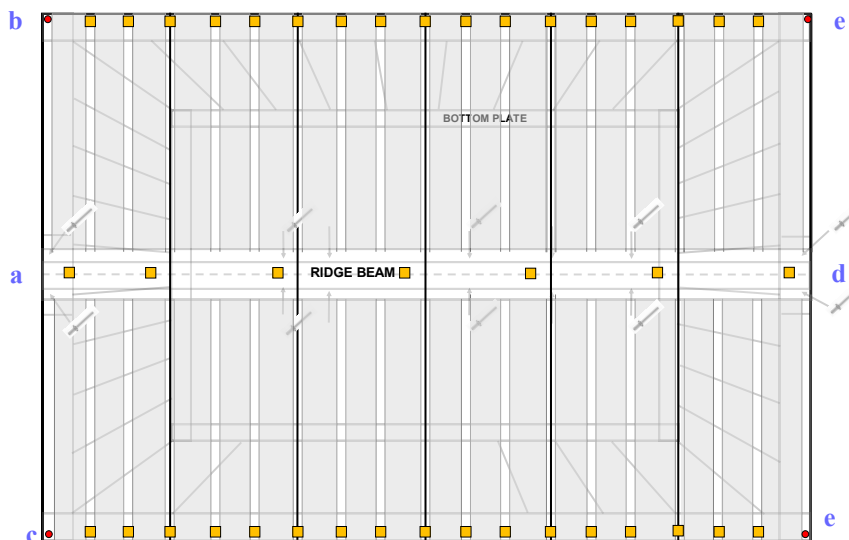

fig.2
- Rivet the 2 Ridge Caps together using 4 rivets, so total flashing is 3.050m long. Rivet the Ridge Cap to the centre of the roof using 10 x rivets as shown (fig.2).